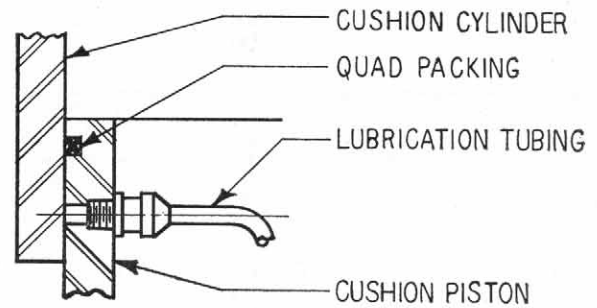

Fig. No. 69
**PRECAUTION:** When installing a cup packing, be careful not to damage or turn back the lip. This can be avoided by making a clamping band as shown in Fig. No. 69 from 16-gauge band iron, 1/2" to 5/8" wide. The ends of this band iron with two holes pierced to receive an ordinary stove bolt should be bent so that the circumference is a little less from bend to bend than the circumference of the piston of the pneumatic die cushion unit on which it is to be used.